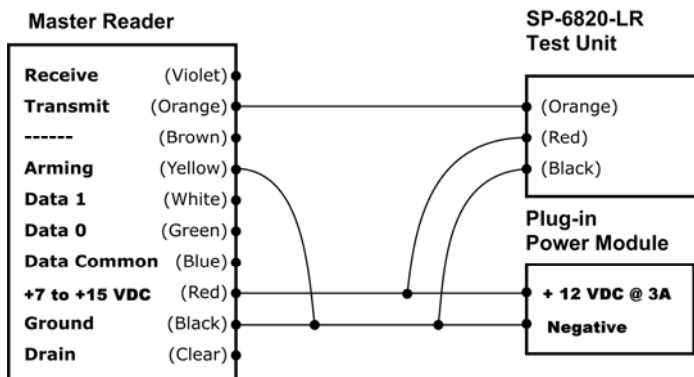

Figure 1. Connections for Pre-Installation Testing
2. Connections: Connect together the 3 negatives (black wires) on the reader, test unit, and power supply, plus reader’s yellow wire. Connect together the reader’s orange wire to the test unit’s orange wire. Connect together the 3 positive power lines (red wires) on the reader, test unit, and power supply. See Figure 1 for test wiring.